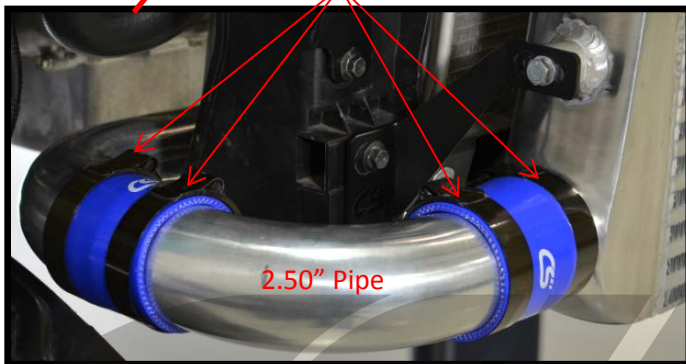

Figure 13b: Passenger's Side
- b) **Loosely position the clamps** on their respective pipes (see **Figures 13b & 13c**) then mount the 2.25" pipe on the driver's side and the 2.50" pipe on the passenger side.
- d) **Tighten the intercooler bolts** with a 13mm socket and ratchet then orientate the clamps into the position shown in **Figures 13b & 13c**. This will allow for easy clamp & silicone adjustment when the bumper is on the car. Tighten the clamps with a 10mm deep socket and ratchet.